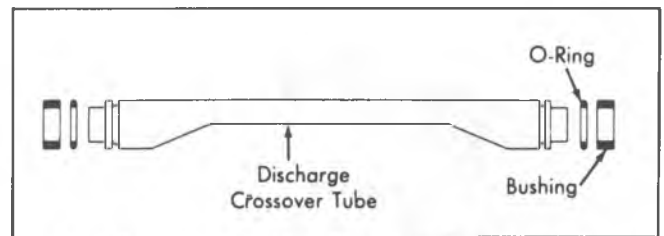
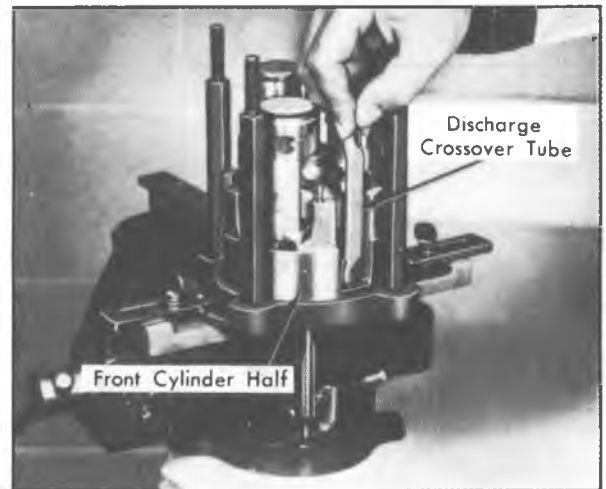
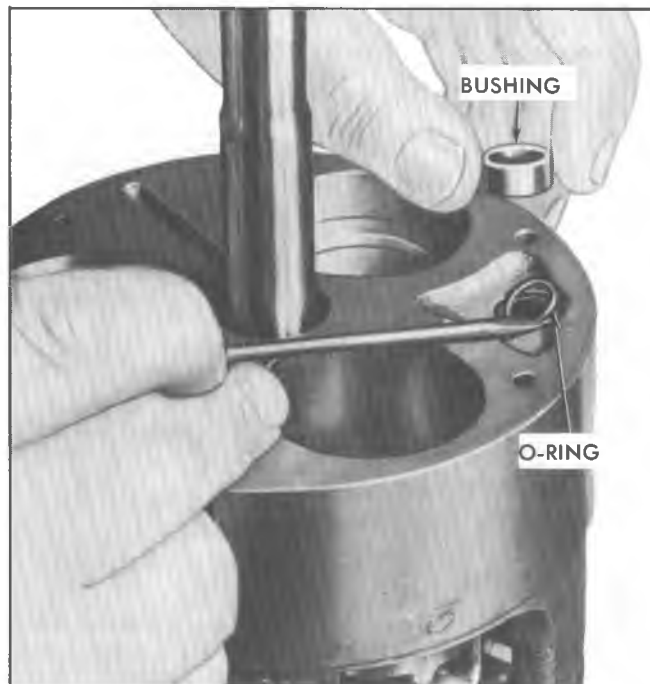

Fig. 53--Service-Type A-6 Discharge Cross-Over Tube
Fig. 54--Installing Discharge Crossover Tube
Fig. 57--Installing O-Ring On Discharge Cross-over Tube
5. Without installing any O-rings or bushings, assemble one end of the new Service discharge cross-over tube into the hole in the front cylinder half (Fig. 53 and 54). Be sure the flattened portion of this tube faces the **inside** of the compressor to allow for axial plate clearance (Fig. 54).
2. Now install new O-ring and bushing on front-end of discharge cross-over tube (Fig. 57). The O-ring and bushing are Service parts only for internal mechanisms that have been disassembled in the field (see Fig. 53).
15. Install new O-ring and bushing on **rear-end** of discharge cross-over tube (See Fig. 53).